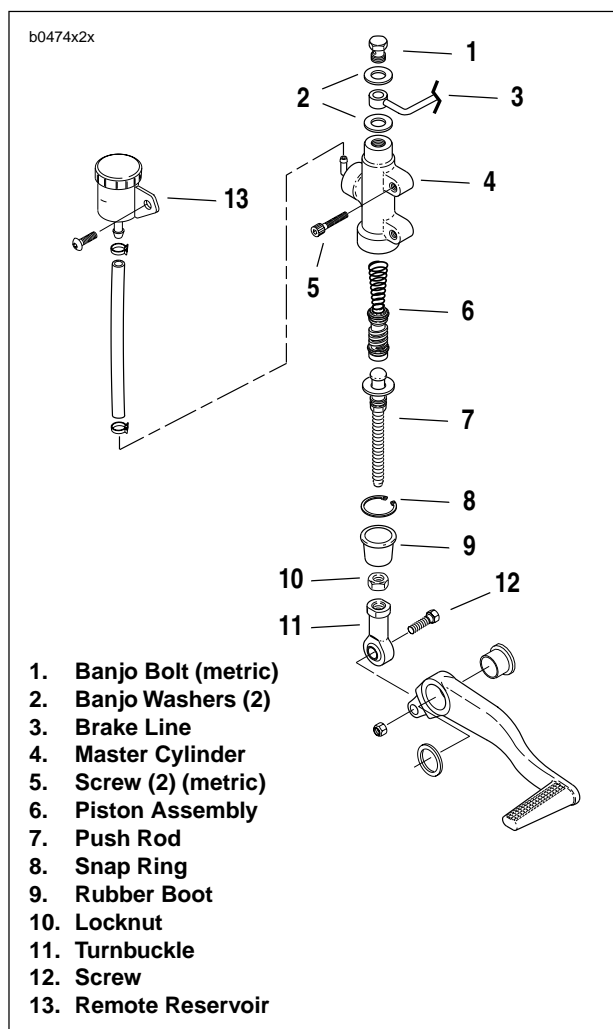

Figure 2-39. Rear Master Cylinder Assembly
2. See Figure 2-39. Remove banjo bolt (1) (metric) and two banjo washers (2) to detach brake line (3) from master cylinder (4). Discard banjo washers.
3. See Figure 2-39. Connect brake line (3) to master cylinder (4) with two **new** banjo washers (2) and banjo bolt (1) (metric). Tighten to 16-20 **ft-lbs** (22-27 Nm).